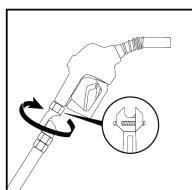

Figure 2
- Solution: Disconnect the hose from the nozzle, reconnect the hose and tighten (see *Figure 2*).